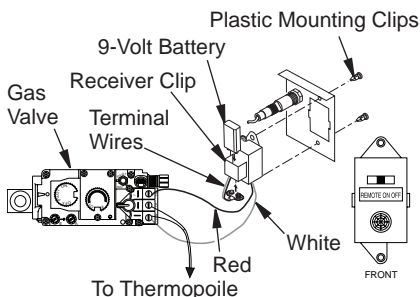

Figure 38 - Installing Remote Receiver (HRC100)
3. Slide 9-volt battery into clip on back of remote receiver and connect battery terminals to battery. Mount receiver onto bracket with clips provided (see Figure 38).